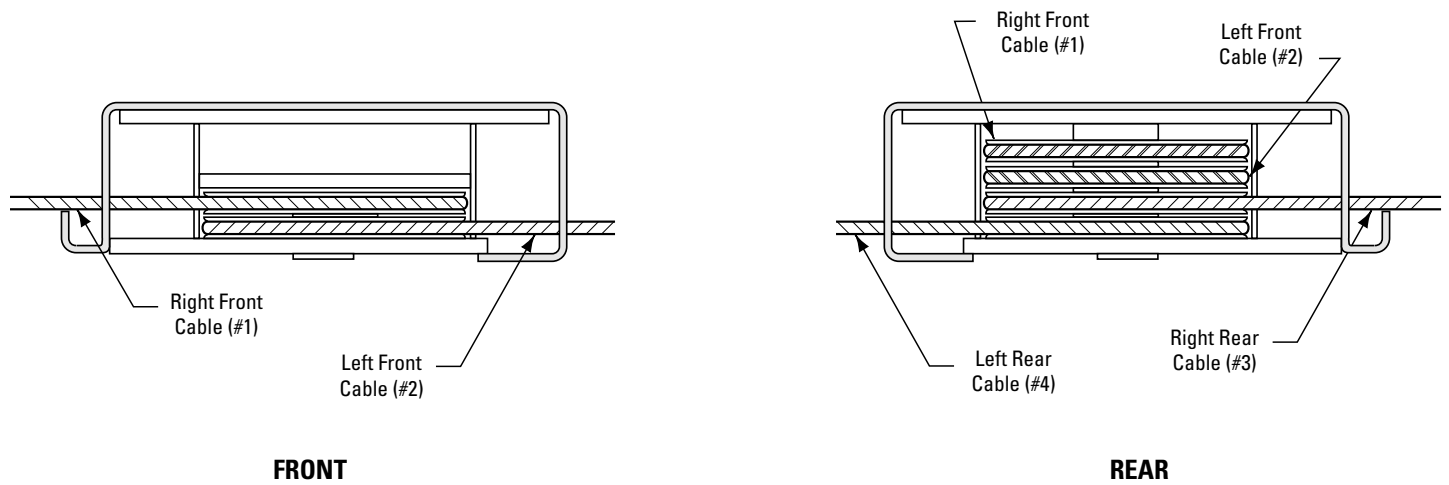

Fig. 3
- B. Position left runway in bay with hydraulic cylinder hose connection to front of bay. Cables and sheaves are pre-assembled in runway. Runway needs to be up off floor so shipping restraints can be removed from cable ends, air and hydraulic lines, and cylinder rod. Pull cable ends, air and hydraulic lines out for assembly. Make sure cables are in proper sheave grooves, Fig. 3. Position the right runway approximately 43" (1092mm) away along side left runway.